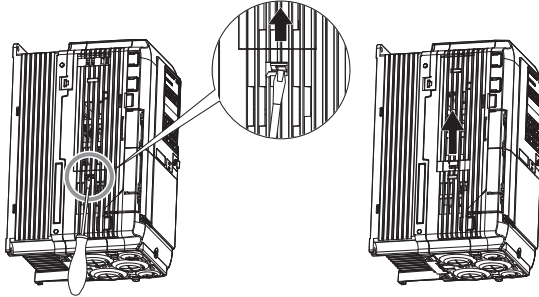

Figure 6 Remove the Connector Cover
1. Shut off power to the drive, wait the appropriate amount of time for voltage to dissipate, then remove the connector cover by pushing on the connector tab and sliding the cover towards the top of the drive as indicated by the arrow in Figure 6.